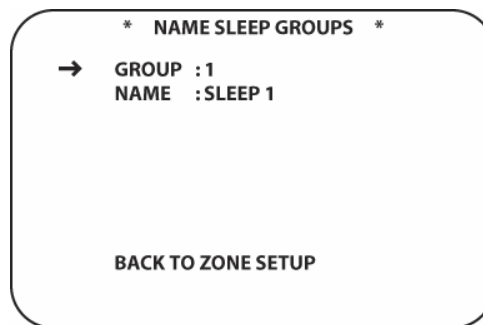

Figure 106 Name Sleep Groups Screen
1. From **ZONE SETUP PAGE 1**, with the cursor next to **NAME SLEEP GROUPS**, press the **Set Button [oval 18]**. The **NAME SLEEP GROUPS** screen will appear. (**Figure 106**)